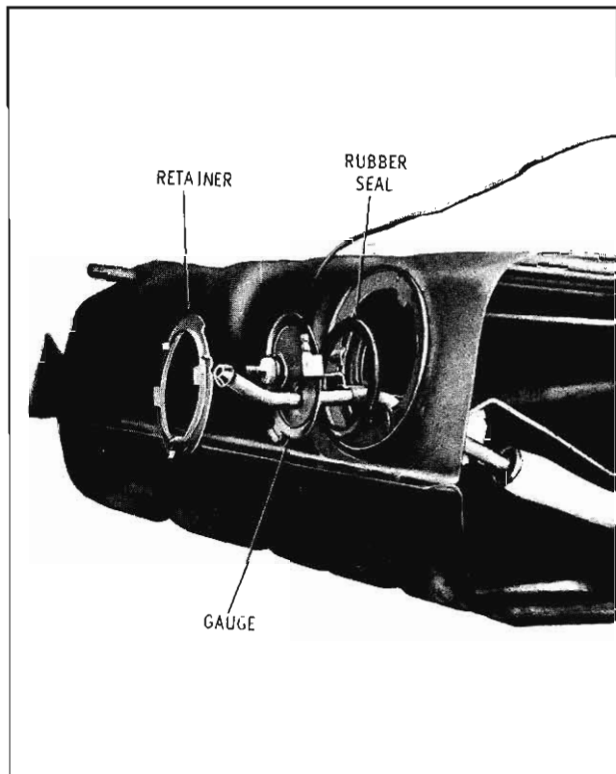

Fig. 3-478 Installing Fuel Gauge
1. Position fuel gauge in tank as shown in Fig. 3-478.